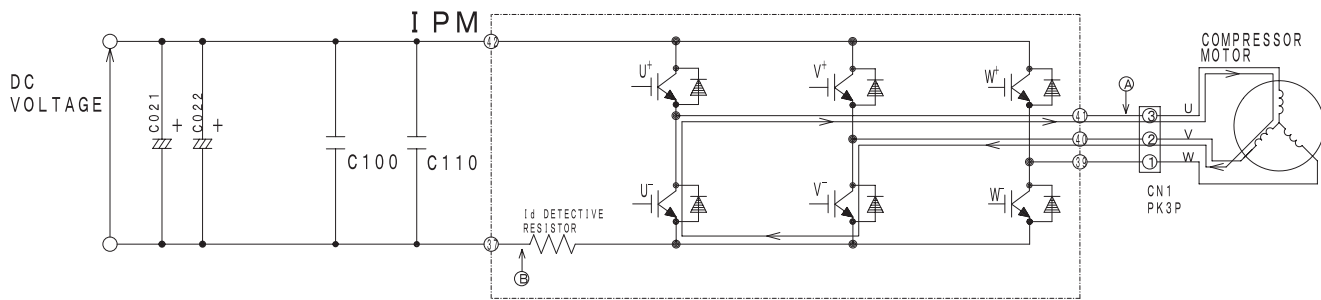

Fig. 4-4 Power module circuit (U⁺ is ON, V⁻ is ON)
At point ⑥: U+ is chopped (OFF), V is ON (circuit in Fig. 4-4)
- (2) When U+ transistor is OFF: (by inductance of motor coil) U coil → V coil → V transistor → Return diode → Point ⑥ (Fig. 4-4)